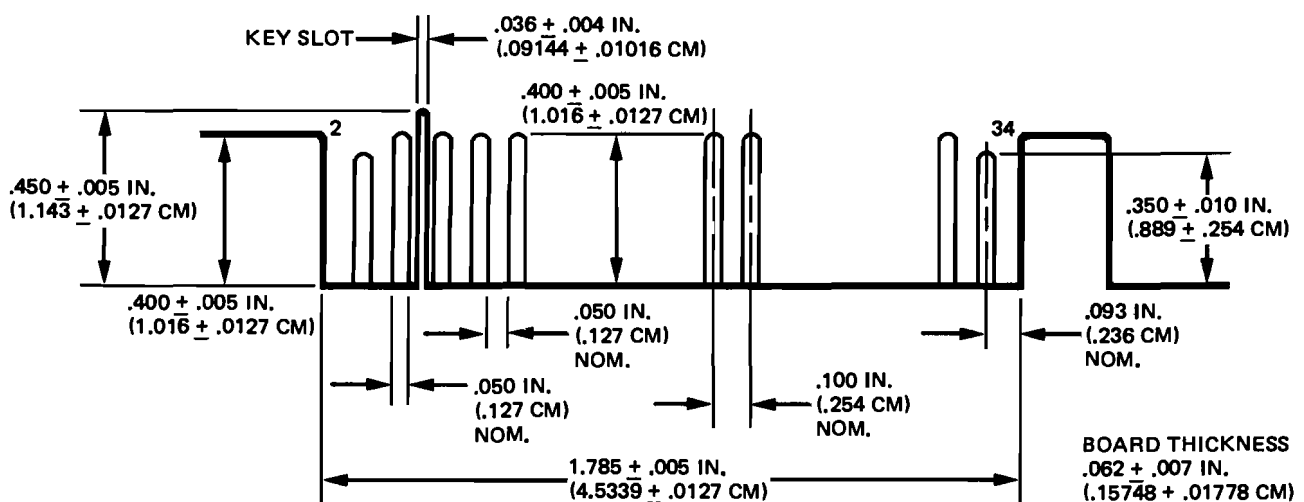

Figure 2-4. J1 Connector Dimensions
**2.3.2.1 Signal Interface Connector.** The signal interface (J1) is a 34-pin PWB edge connector with dimensions as shown in Figure 2-4. Even-numbered pins are located on the component side of the PWB, and odd-numbered pins are located on the solder side. Pin 2 is located closest to the corner of the PWB. A slot is provided between pins 4 and 6 for connector keying. The recommended connectors for P1 are listed in Table 2-1.